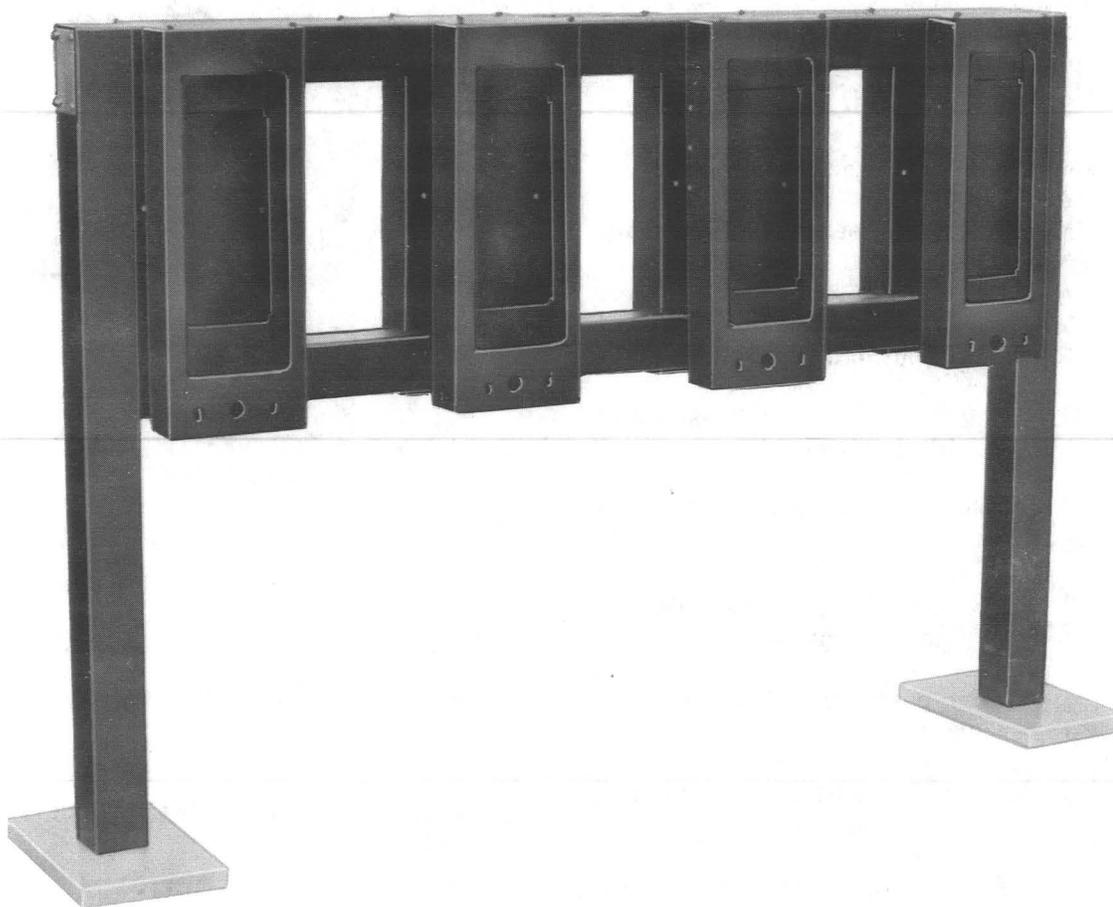

Fig. 1—KS-22677, List 1 Corral Rail
1.01 This section provides information on the KS-22677 corral rail public telephone enclosure (Fig. 1).